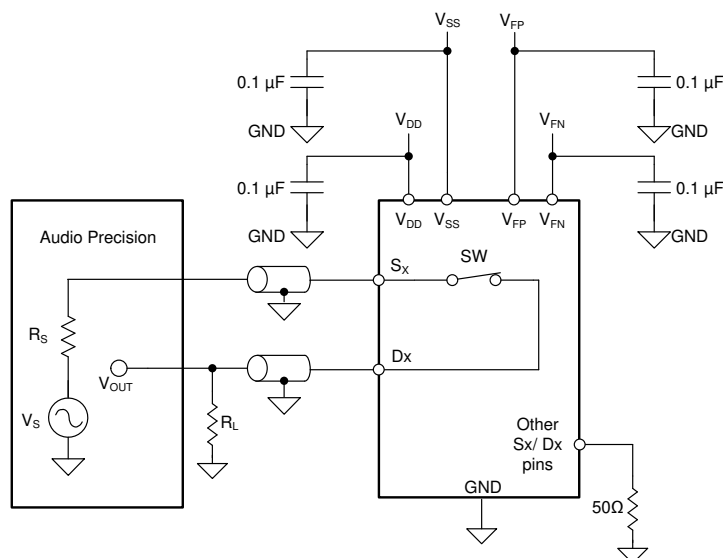

**Figure 7-11. Bandwidth Measurement Setup**
Bandwidth (BW) is defined as the range of frequencies that are attenuated by < 3 dB when the input is applied to the source pin (Sx) of an on-channel, and the output is measured at the TMUX7462F's drain pin (D or Dx). Figure 7-11 and Equation 2 shows the setup used to measure bandwidth of the switch.